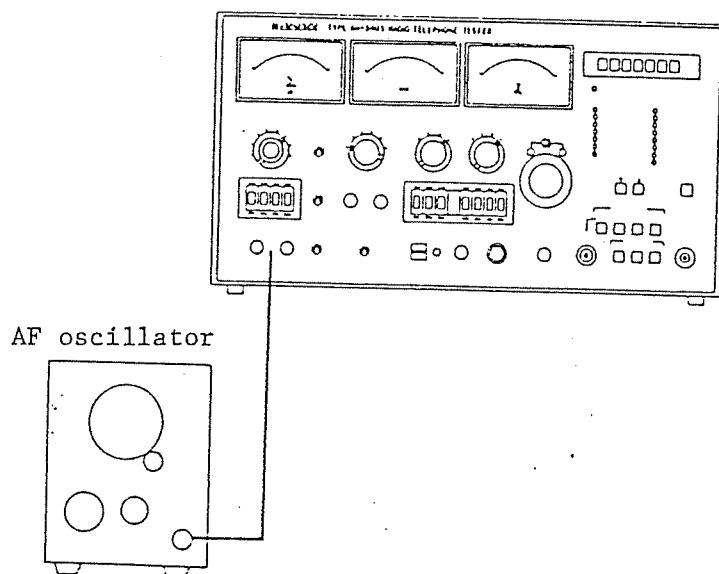

Fig. 3-19 Distortion meter test
(1) Connect a AF oscillator to the [INPUT] terminal of the [AF LEVEL METER] of this apparatus as shown in Fig. 3-19.
(2) Set the controls of this apparatus as follows: